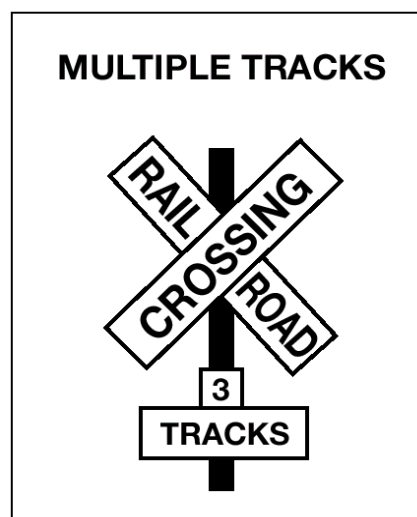

Figure 2.17
**Cross-buck Signs.** This sign marks the grade crossing. It requires you to yield the right-of-way to the train. If there is no white stop line painted on the pavement, vehicles that are required to stop must stop no closer than 15 feet or more than 50 feet from the nearest rail of the nearest track. When the road crosses over more than one track, a sign below the cross-buck indicates the number of tracks. See Figure 2.17.